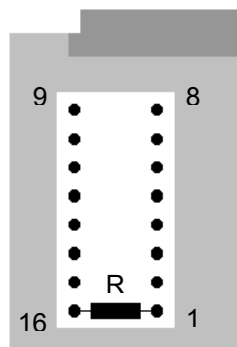

Figure 15 - Location of RT on the drive
12. Set the value of one of the 20 K Ω multiturn potentiometer fitted directly to a DIL header (contained in the service pack refer to section 4.4) to the measured value of 'RT' (from step 11) and fit into SK1 of the SPA drive, refer to figure 15.